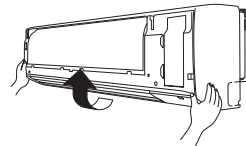

Fig. 3-86
- (6) Lift up the grille in the direction shown by the arrow and pull the grille towards you to remove it. (Fig. 3-86)